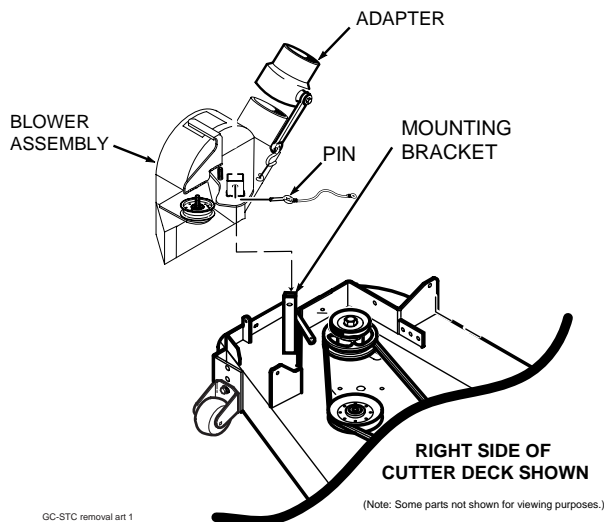

Figure 6
3. Remove the rubber strap holding the adapter to the blower assembly. See Figure 6.
4. Remove the pin holding the blower assembly to the mounting bracket on the cutter deck and remove the blower assembly. See Figure 6.